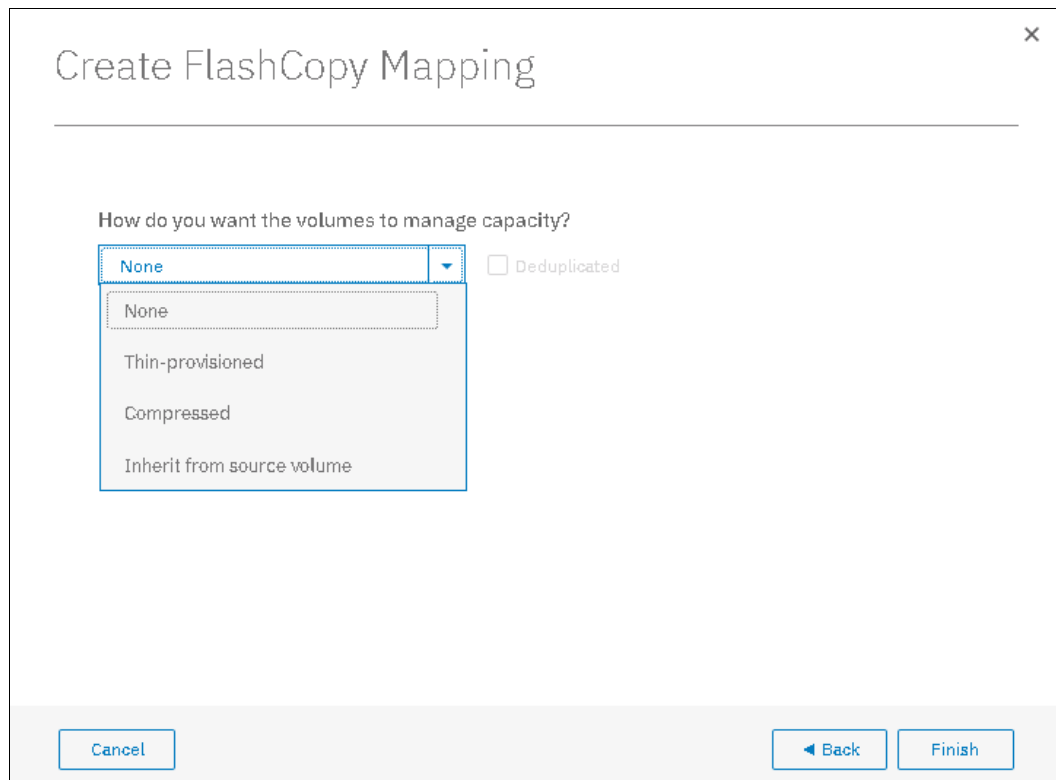

Figure 10-25 Select volume type
5. In the next window, select the volume type, as shown in Figure 10-25.